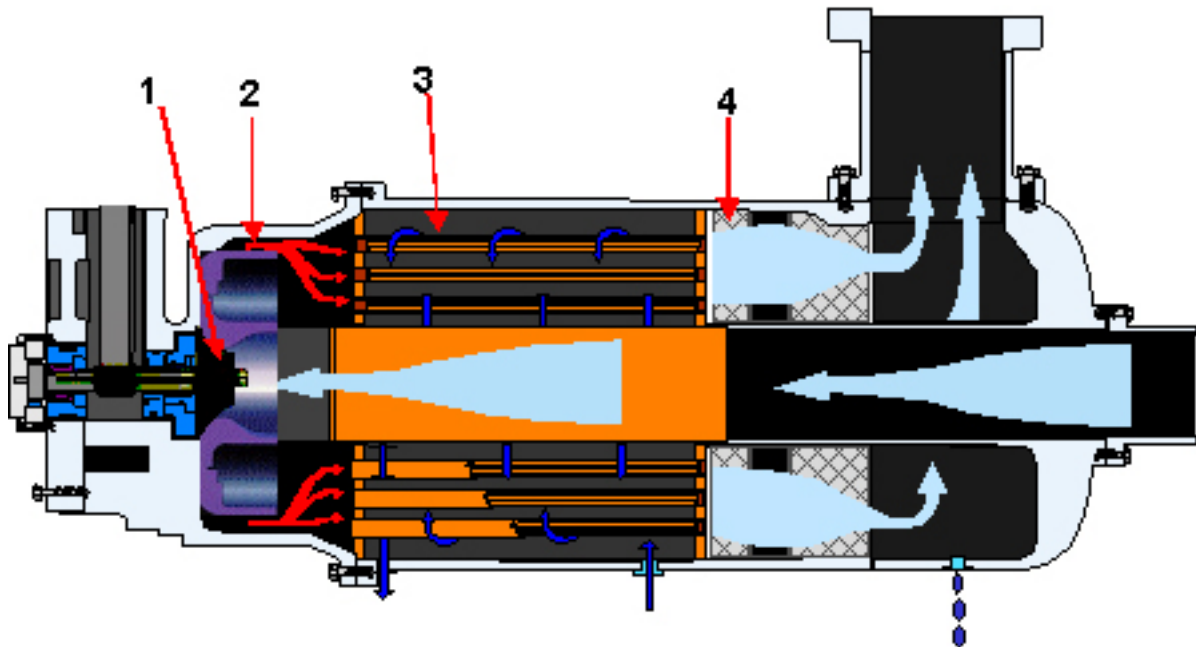

Figure 4.1
The CENTAC is defined as a dynamic centrifugal type compressor. As shown in Figure 4.1, air enters the compressor through the inlet control valve and flows to the first stage where the impeller (1) imparts velocity to the air. The air proceeds through the diffuser section (2) which converts velocity to pressure. The built-in intercooler (3) removes the heat of compression, which improves efficiency.